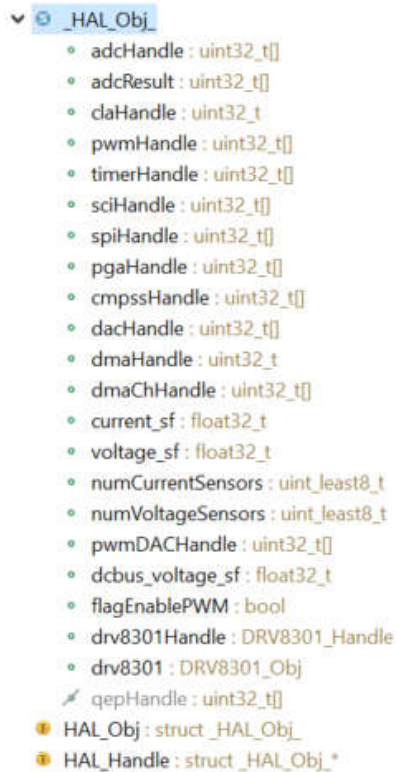

Figure 12: HAL Object expand in Outline
3. With the Outline View open, expand “_HAL_Obj_” to see each member of the HAL object as shown in **Figure 12**.